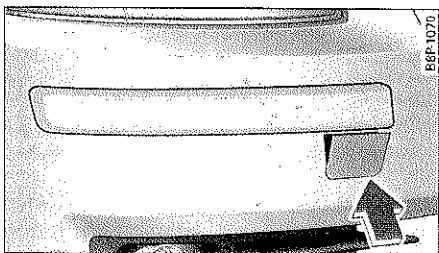

Fig. 220 Front bumper: removing the cover cap
- Press on the *bottom* edge of the cover cap to disengage and take it out of the bumper. The cap remains connected to the bumper ⇒ fig. 220.